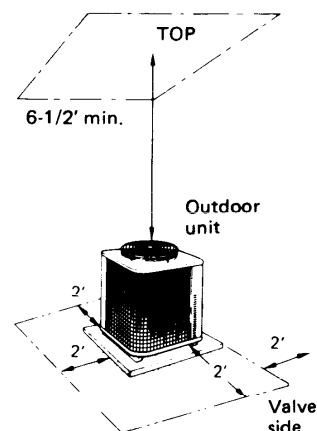

Fig. 5
- allow enough room around unit for air intake/exhaust and possible maintenance. Fig. 5